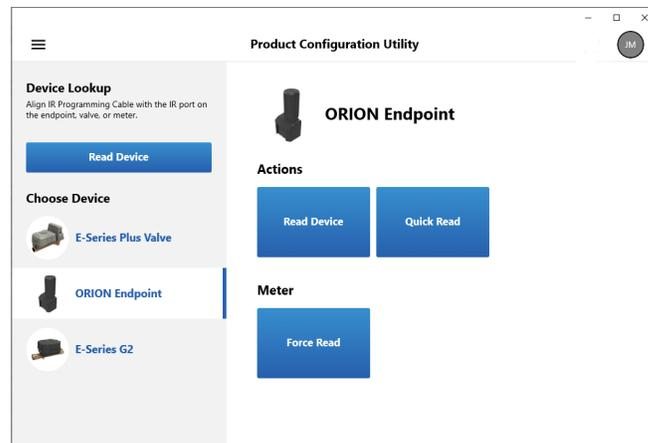

Figure 14: PCU Product Selector screen
3. Sign in with your BEACON email and password. Then click **Sign In**. The software Product Selector screen opens (Figure 14).